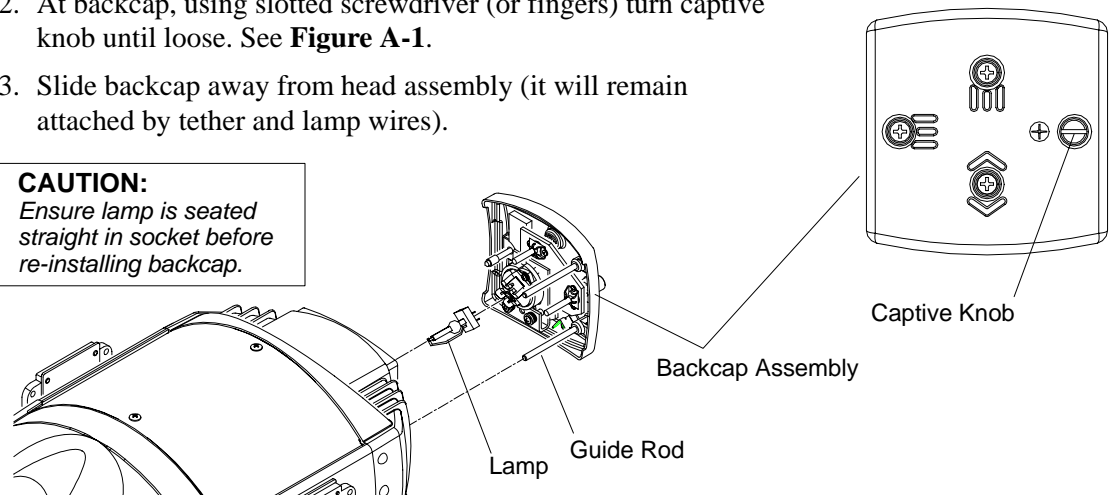

Figure A-1: Lamp Replacement
Step 2. At backcap, using slotted screwdriver (or fingers) turn captive knob until loose. See **Figure A-1**.